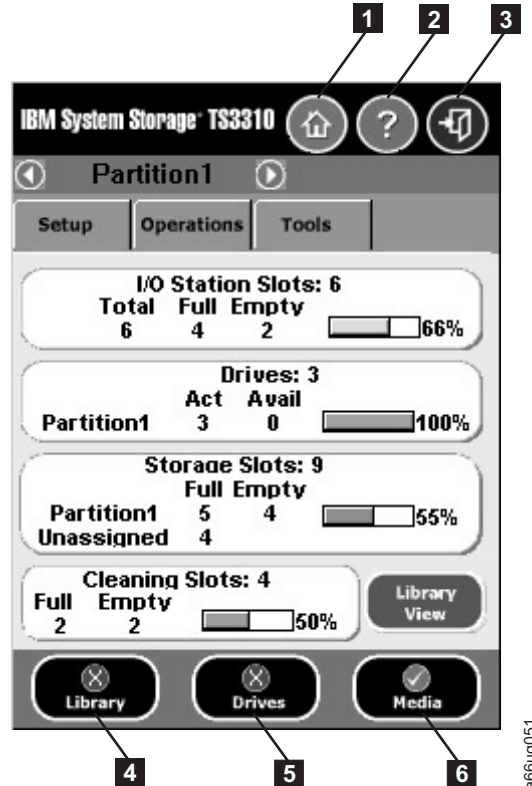

Figure 5-1. Operator Panel common header elements and subsystem status buttons
- **Home** (1 in Figure 5-1) - displays the default **Capacity View** screen which toggles to the **Library View** screen.
- **Help** (2 in Figure 5-1) - context-sensitive help for the associated page
- **Logout** (3 in Figure 5-1) - ability to log out
- **Library** (4 in Figure 5-1)- opens a library menu selection screen and then the operator interventions for the library.
- **Drives** (5 in Figure 5-1)- opens the operator intervention screen for drives.
- **Media** (6 in Figure 5-1)- opens the operator intervention screen for media.